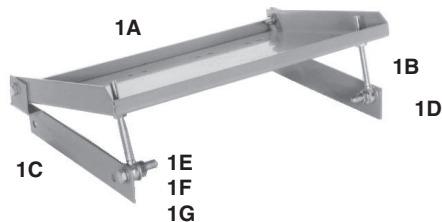

Figure 8. Motor Mounting Plate Assembly (Refer to Table 15)
- The assembly shown in Figure 8 is the motor-mounting plate assembly used on a unit with a 1/3 - 1.5-HP belt-driven motor.